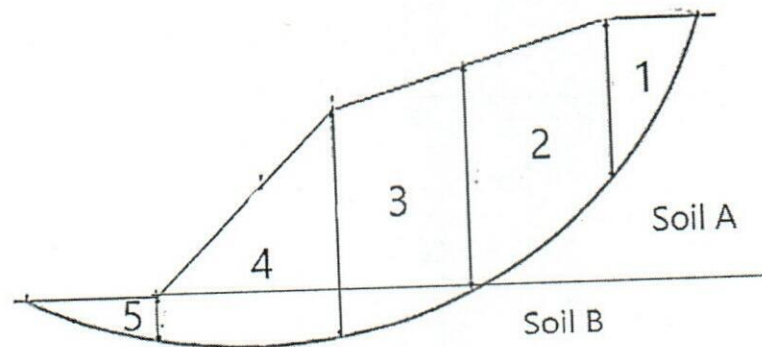

Figure 4
- b) Investigate the stability of the embankment shown in **Figure 4**. The embankment consists of granular fill (Soil A) placed upon a deep deposit of clay (Soil B). Both soils have a bulk unit weight of 19 kN/m^3 . The fill has $\phi' = 30^\circ$ & $c' = 5 \text{ kPa}$ while the clay deposit has $\phi' = 10^\circ$ & $c' = 30 \text{ kPa}$. **Table 1** provides the details relevant to individual slices (20 marks)